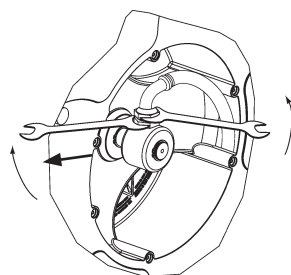
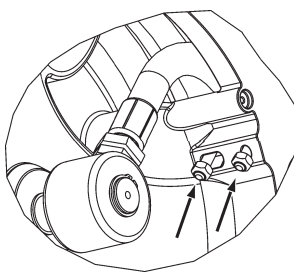

FIG 8a.
FIG 8b.
- Fix the hose to the swivel as indicated in figure 8a and fix the U bolt as shown in figure 8b.
3. Disconnect the hose as seen (Fig. 8a). Release the hose from the disk by removing the clamp (Fig. 8b).
3. Ta loss slangen från sviveln enligt (Fig. 8a) och ta bort klammern (Fig. 8b).